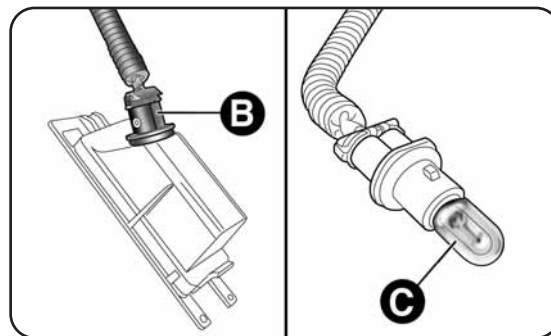

fig. 140
- turn bulb holder B-fig. 140 anticlockwise, remove bulb C and replace it.